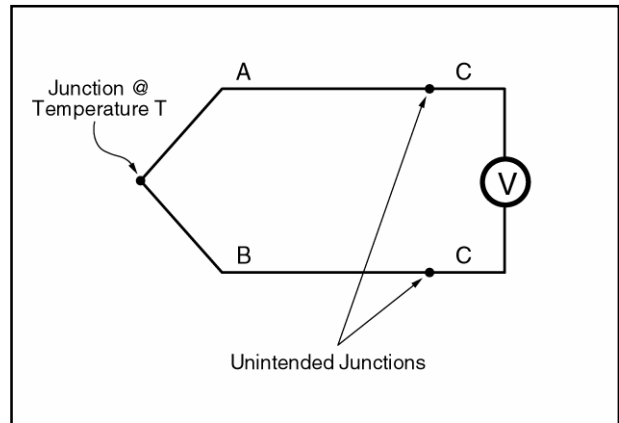

Figure 4. Measuring Thermocouple Voltage Creates Two Additional Junctions.
A problem arises when one tries to measure the voltage across the dissimilar metal junction: two additional thermocouple junctions are formed where the wires are attached to the voltmeter. Figure 4 illustrates this problem. If the wires leads which connect to the voltmeter are made of alloy "C", then thermal emf's exist at the A-C and B-C junctions. There are two approaches to solving this problem: use a reference junction at a known temperature or make corrections for the thermocouples formed by the connection to the voltmeter.
The second approach to the problem depends on the fact that the voltage across the junction A-C plus the voltage across the junction C-B (Fig. 4) is the same as would be seen across a junction of A-B. The presence of an intermediate metal (C) has no effect, as long as all the junctions are at the same temperature. This allows us to correct for the voltage seen by the voltmeter in Figure 4 by measuring the temperature at the A-C and B-C junctions and subtracting the voltage which we would expect for an A-B junction at the measured temperature. In the SR630 the temperature of the A-C and C-B junctions are measured with a low cost, high resolution semiconductor detector, and the "expected voltage" is the tabulated voltage for the A-B thermocouple at the measured temperature of the A-C and C-B junctions.